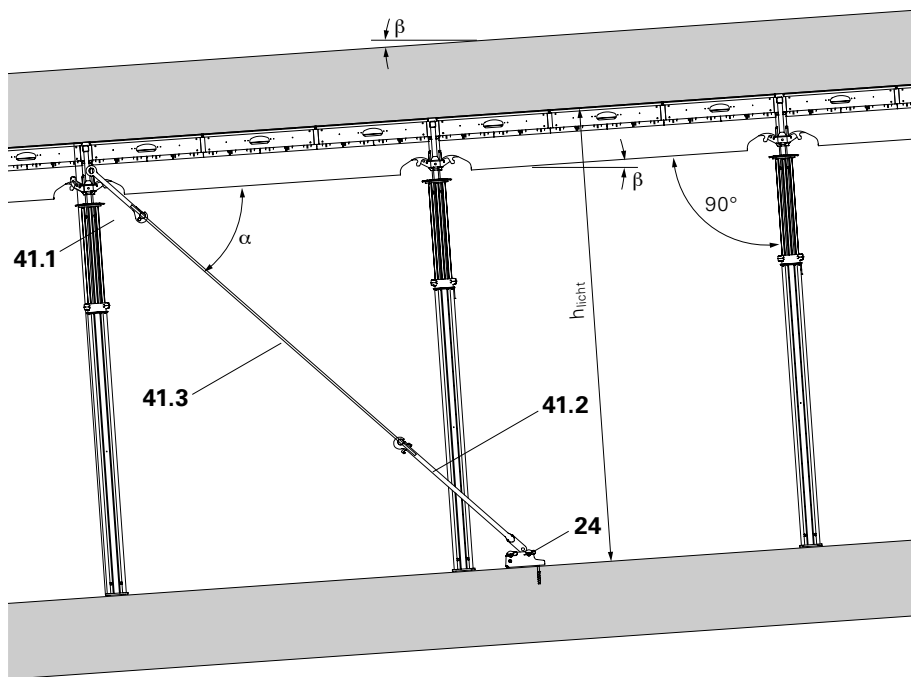

Fig. A11.02
6. Fix Tension Unit Lower Part (41.2) to the Base Plate by means of bolts, and secure bolts using cotter pins. (Fig. A11.02)